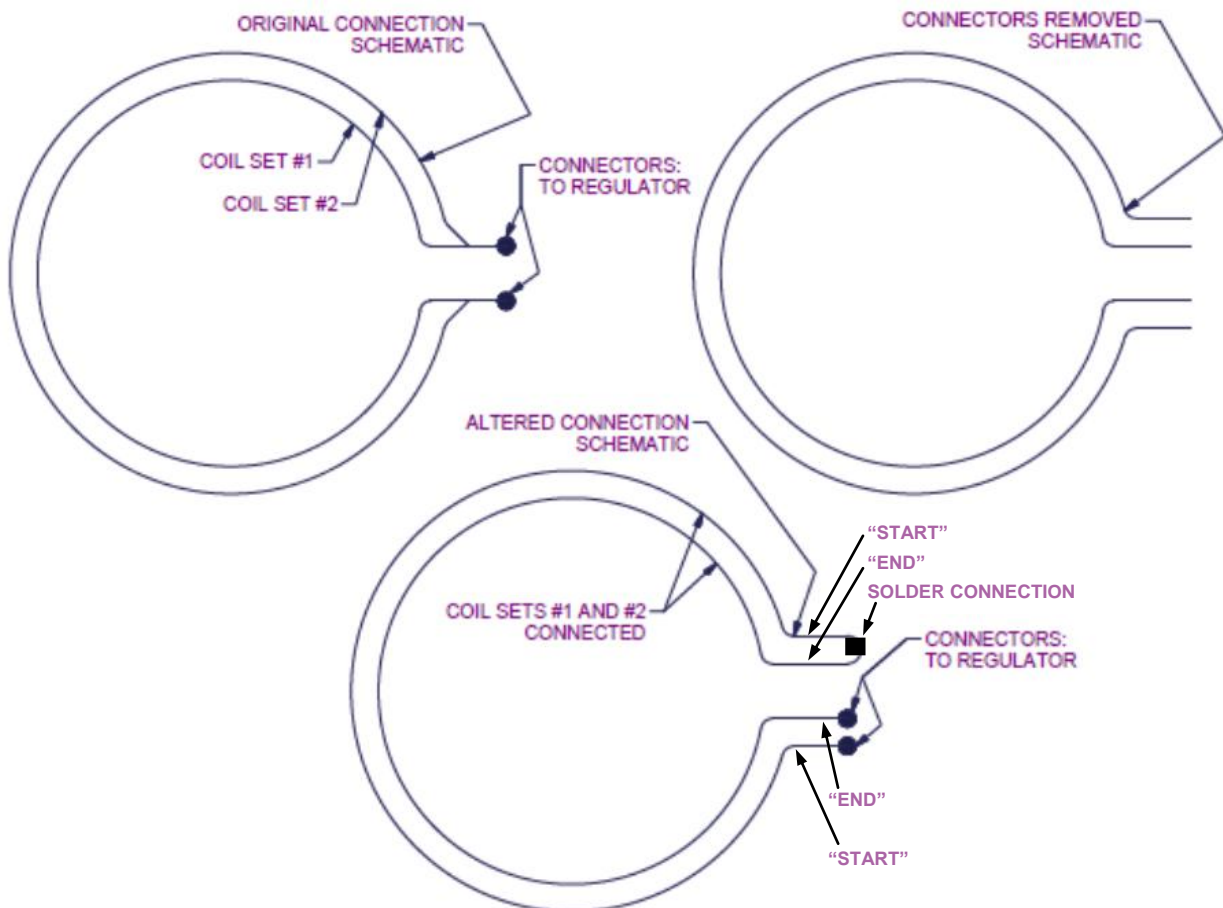

Figure 9 – Wiring Schematics
1. A schematic showing the current and altered wiring is shown in Figure 9.